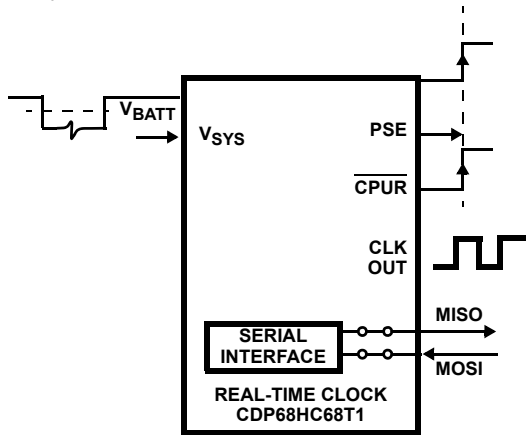

FIGURE 6. POWER-UP FUNCTIONAL DIAGRAM (INITIATED BY A RISE IN VOLTAGE ON THE “ $V_{SYS}$ ” PIN)
### Watchdog Function (See Figure 6)
- The second condition that releases Power-Down occurs when the level on the  $V_{SYS}$  pin rises about 1.0V above the level at the  $V_{BATT}$  input, after previously falling to the level of  $V_{BATT}$  (see Figure 6) in the Battery Backup Mode or  $V_{SYS}$  falls to logic low and returns high in the Single Supply Mode.